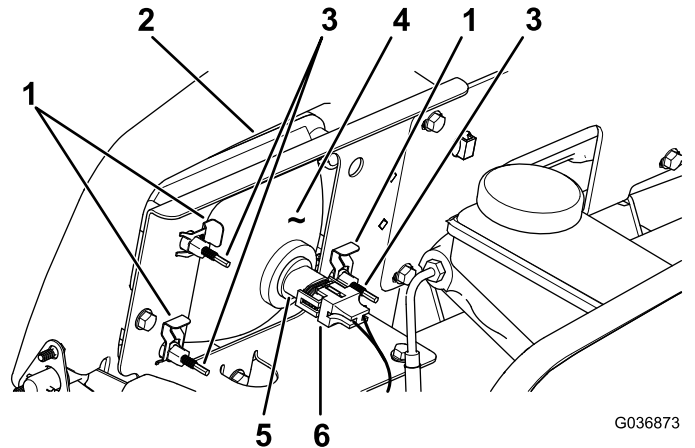

Figure 37
3. Disconnect the electrical connector for the harness from the connector of the lamp assembly (Figure 37).
4. Remove the speed clips that secure the headlight to the headlight bracket (Figure 37).
5. Remove the headlight assembly by moving it forward through the opening in the front bumper (Figure 37).
6. Install the new headlight through the opening in the bumper (Figure 37).
8. Connect the electrical connector for the harness to the connector of the lamp assembly (Figure 37).
2. At the back of the headlight assembly, rotate adjustment screws (Figure 37) to pivot the headlight assembly and align the position of the cast beam.